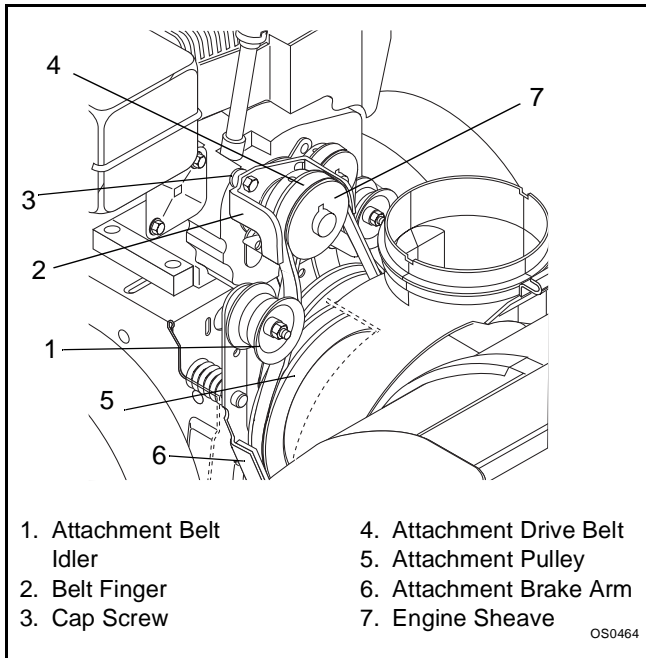

Figure 4
**NOTE:** Removing belt finger can make removing belt easier (Figure 4).
5. Remove attachment drive belt from attachment pulley on back of housing (Figure 4).